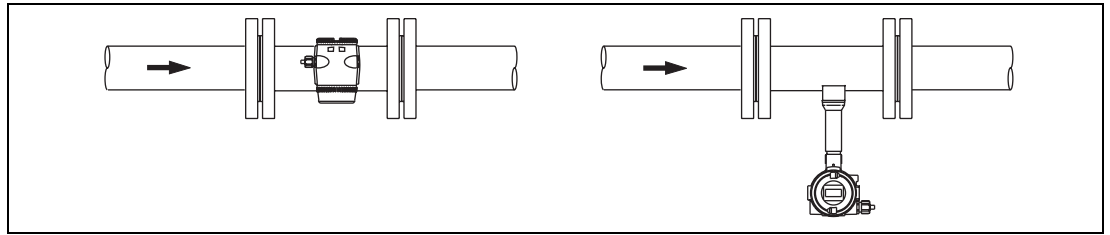

Fig. 12: Installations for High Fluid Temperatures > 150 °C
- **for high fluid temperatures the flowmeter primary should be installed so that the electronic assembly is mounted at the side or bottom of the flowmeter (Fig. 12 ).**